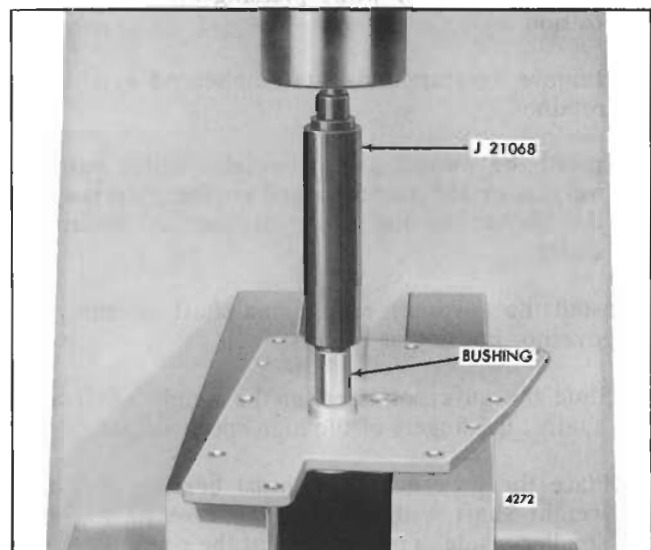

Fig. 20 - Installing Bushing in Governor Cover
- f. On a governor equipped with a stop lever shaft bushing, install the bushing in the cover (Fig. 20) in the same manner as described in Steps a and b above. Use the small pilot end of installer J 21068 to install the bushing.